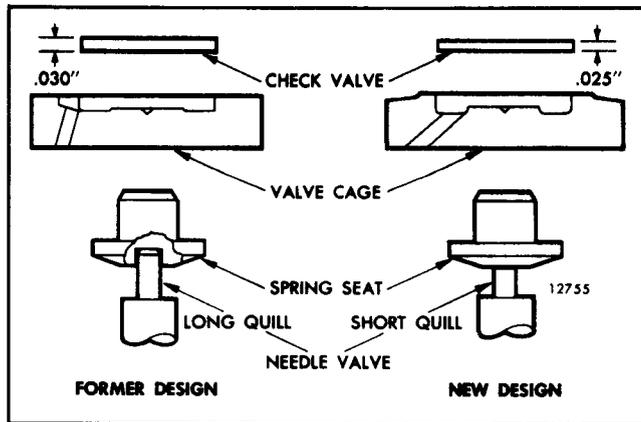

Fig. 39 - Comparison of Former and New Design Injector Parts
**NOTE:** The former and new check valve and check valve cage are not separately interchangeable in a former injector (Fig. 39).
**NOTE:** Install a new spring seat (Fig. 39) in a former injector if a new design spray tip assembly is used.